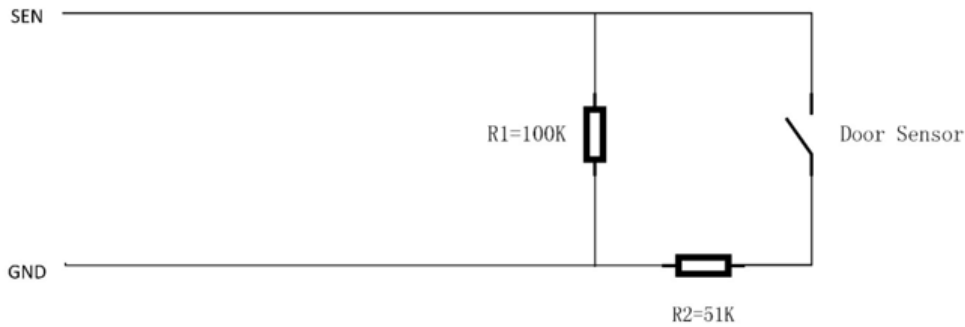

Figure 3-6-1
- While using supervisor functions, connect two resistor like figure 3-6-1, R1=100K Ω , R2=51K Ω .